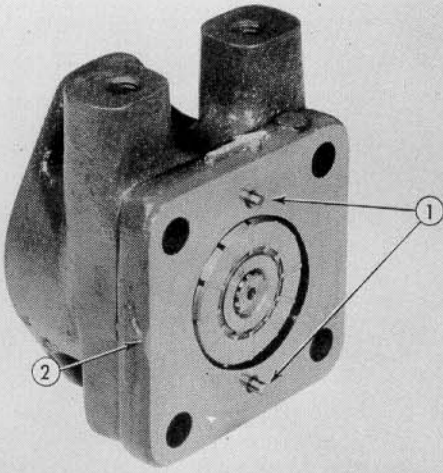

Fig. 30
Step 6—Remove locating pins (1—Fig. 30) and ring (2).